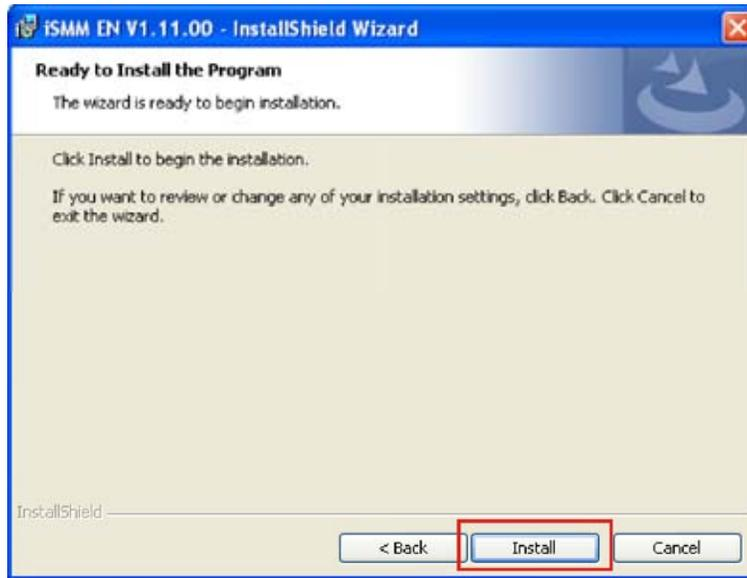

Figure 6-35: iSMM Installation Confirmation
Step 18: The Installation Confirmation screen appears. (Figure 6-35)
Step 19: Click **INSTALL** to begin installing the drivers. (Figure 6-35)